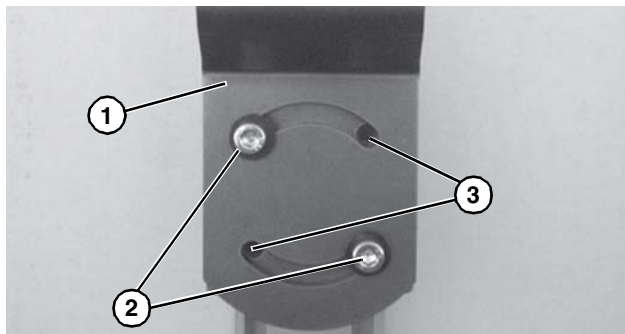

Figure 13
Loosening angle adjustment screws (Figure 13, item 2) may cause conveyor sections to drop down, causing severe injury. **SUPPORT CONVEYOR SECTIONS PRIOR TO LOOSENING ANGLE ADJUSTMENT SCREWS.**
To rotate conveyor mounting bracket (Figure 13, item 1), it may need necessary to relocate screws (Figure 13, item 2) to holes (Figure 13, item 3).
1. Loosen angle adjustment screws (Figure 13, item 2) on both sides of conveyor.
Failure to secure screws (Figure 13, item 2) may cause conveyor sections to drop down, causing severe injury. **TIGHTEN SCREWS (Figure 13, item 2) AFTER ADJUSTMENT.**
3. Tighten angle adjustment screws (Figure 13, item 2) to 24 ft-lb (33 N-m).